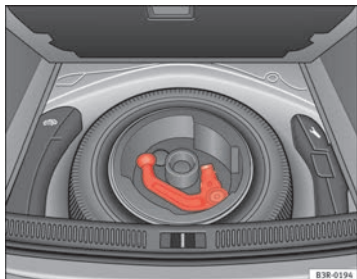

Fig. 153 Luggage compartment: Spare wheel with towing bracket
- On vehicles with a spare wheel ⇒ **fig. 153**.